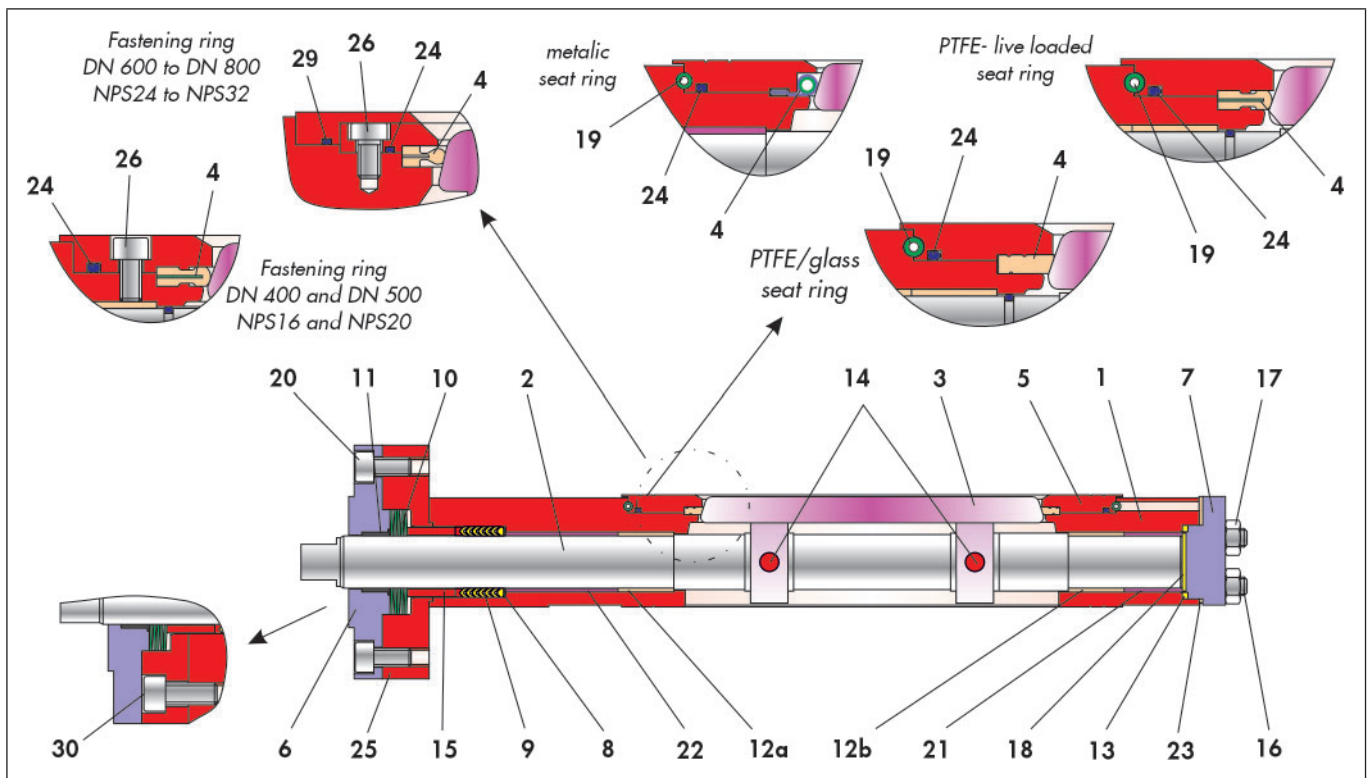

Fig.3-4: Sectional drawing of the BR 14c butterfly valve with spring washer preloaded V-ring packing
*Fit butterfly valves with a nominal size of DN 300 or NPS12 without sealing (23).*
- ⇒ Insert the preassembled cover into the bearing bore in the valve body (1) and adjust with the stud bolts.
- ⇒ Tighten the cover (7) with the nuts (17) evenly and in a criss-cross pattern.
- ⇒ Push the disc (8) over the free shaft end into position in the valve body.
- ⇒ Push the PTFE V-ring packing (9) over the control shaft into the body bore and press in with an assembly sleeve. Refer to the sectional drawing Fig. 3-4 for the arrangement of the V-ring packing.
- ⇒ Place the intermediate flange (25) on the valve body and adjust with screws (30).
- ⇒ Tighten the screws (30) evenly in a criss-cross pattern.
- ⇒ Push the thrust ring (15) over the control valve and press it into position in the valve body.
- ⇒ Insert the disc spring set (10). Refer to the sectional drawing Fig. 3-4 for the arrangement of the disc springs.
- ⇒ Press the bearing bush (11) into the stuffing box flange (6).
- ⇒ Fit the preassembled stuffing box flange smoothly over the intermediate flange and adjust with screws (20).
- ⇒ Tighten the screws (20) evenly in a criss-cross pattern.